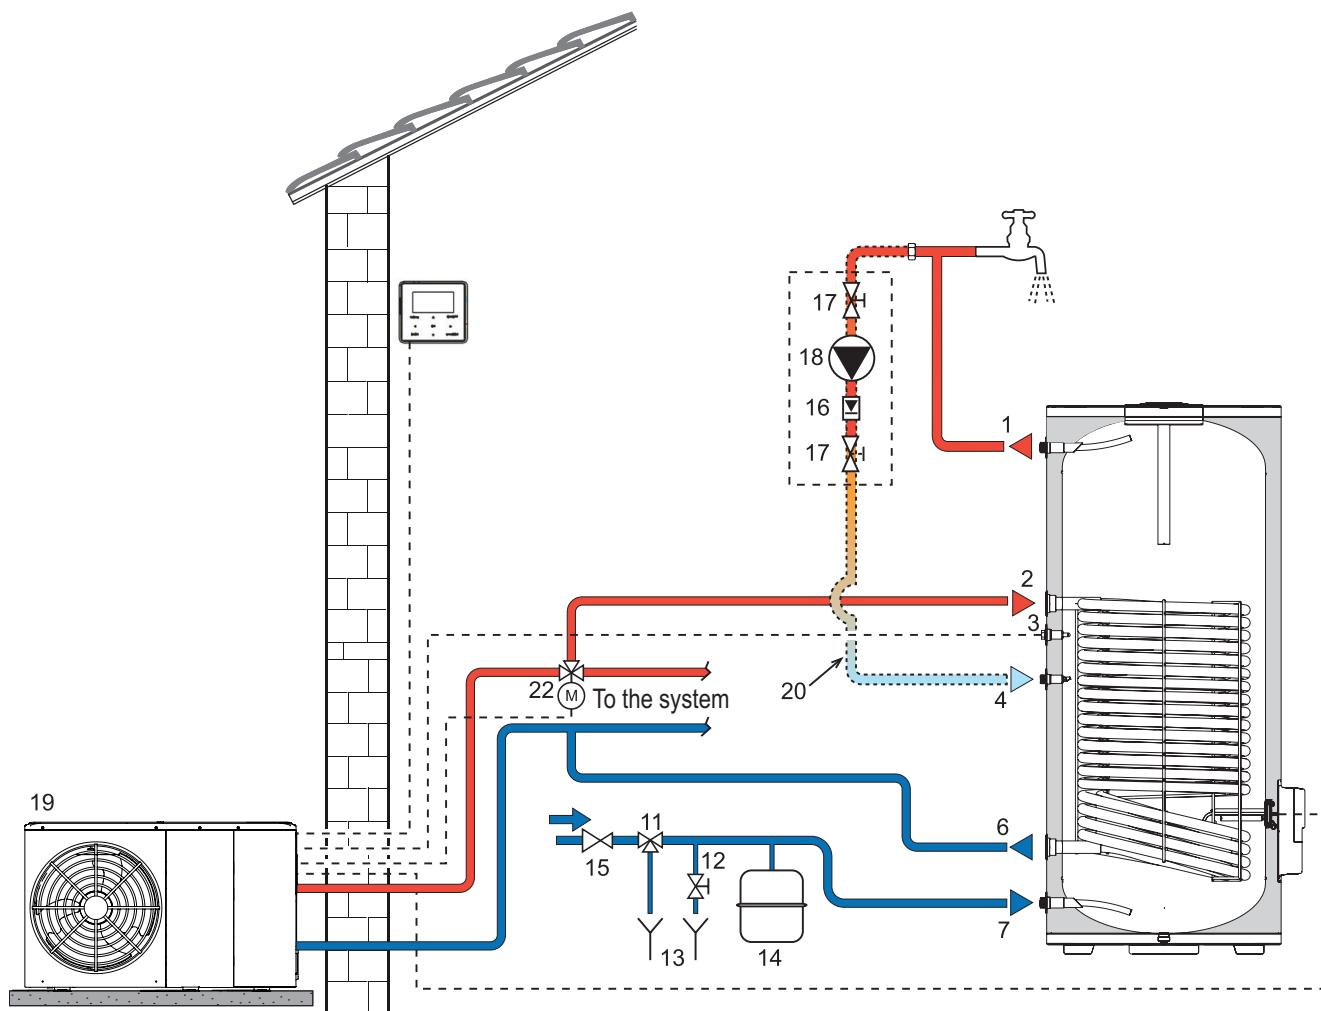

fig. 10 - Hydraulic circuit BSF HP 1C
- To carry out emptying, turn off the faucet for filling from the mains supply, connect a hose to the drain connection (not supplied - ref. 12 in fig. 10 and fig. 11), foreseen during the installation phase, and place the other end in an area provided with an external drain.